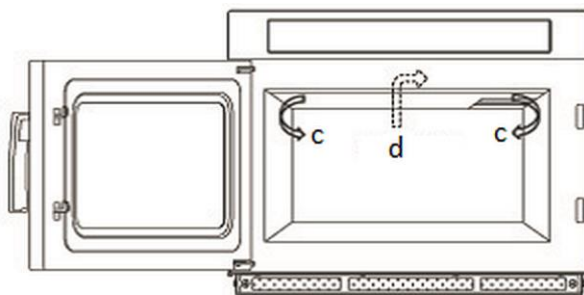

Fig. 5
2. Proceed in the following way (Fig. 5):